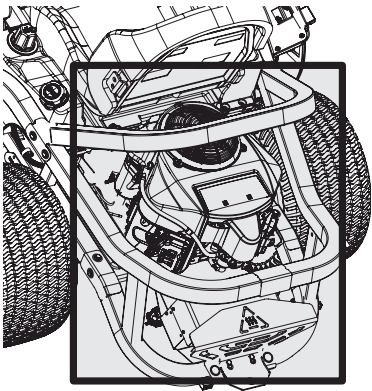

Figure 31
- Keep both sides of transmission cooling slots, exhaust manifold, around fuses, all wiring and harnesses, muffler pipe, muffler shield, engine intake screens and cooling fins, etc. clear of grass clippings and leaves. See Figure 31.